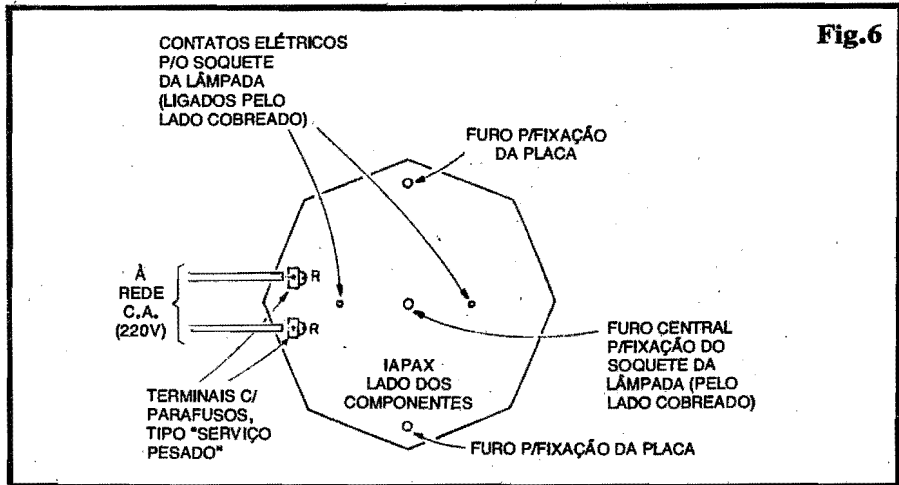

Fig.6
- FIG. 6 - DETALHES DAS CONEXÕES E DISPOSIÇÕES GE-